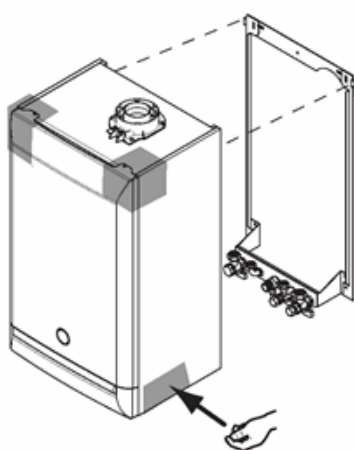

Fig. 35
2. Lift the boiler as indicated by the shaded areas. The boiler should be lifted by TWO PEOPLE. Engage the slots at the top rear of the boiler on the wall plate (Fig. 35) (see Safe Manual Handling).